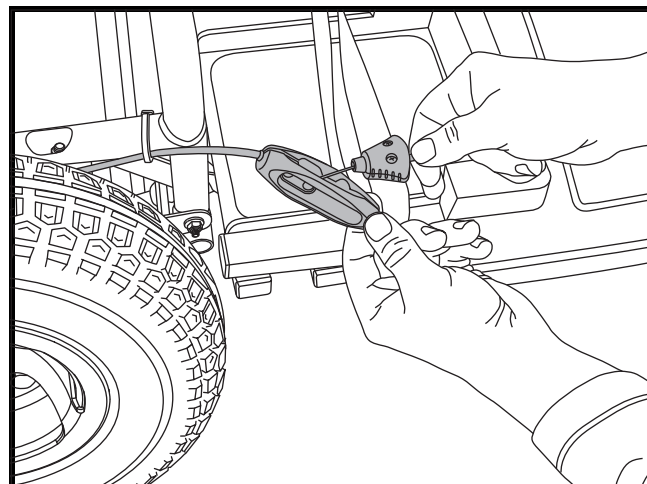

Figure 25. Handbrake Cable Release
4. Separate the brake cable from the cable clamp located inside the quick disconnect body. See figure 25.